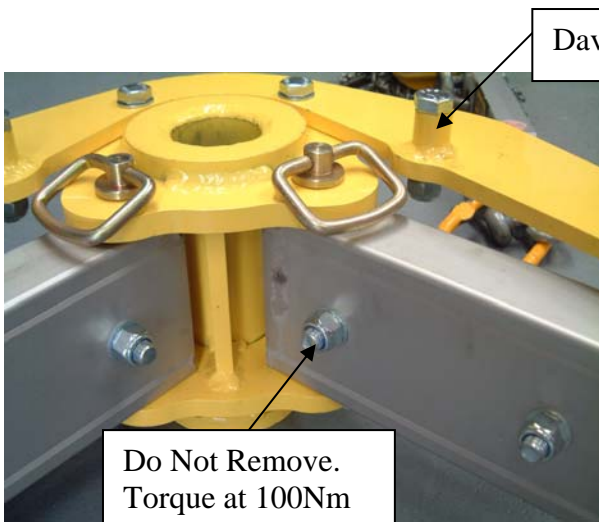

Fig. 1: Hub + Leg assembly
1. Bolt the yellow boomerang plate to the socket hub, with the davit rotation stops facing upwards, using M16x45 Hex bolts (see Fig 1). (On dis-assembly these do not need to be removed).
2. Insert each leg assembly into the socket hub with levelling foot to the ground (see Fig. 1 + 3) and retain with tow pin. Tow pins should then be secured with lynch pins.